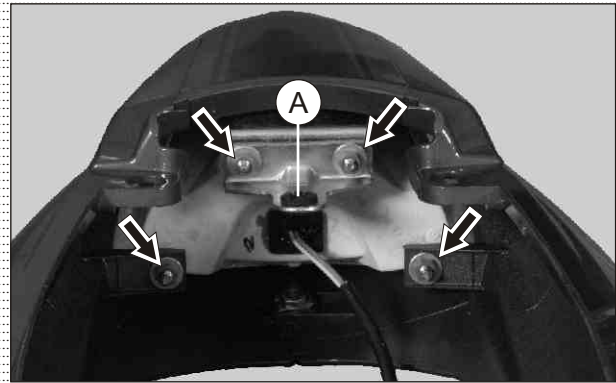

Fig. 5.56
- Remove hex nuts (M6 - 4 nos) from the tail bracket along with punched washer. (Fig. 5.56)
While reassembling ensure that the presence of the grommet (A) in the tail cover. (Fig. 5.56)